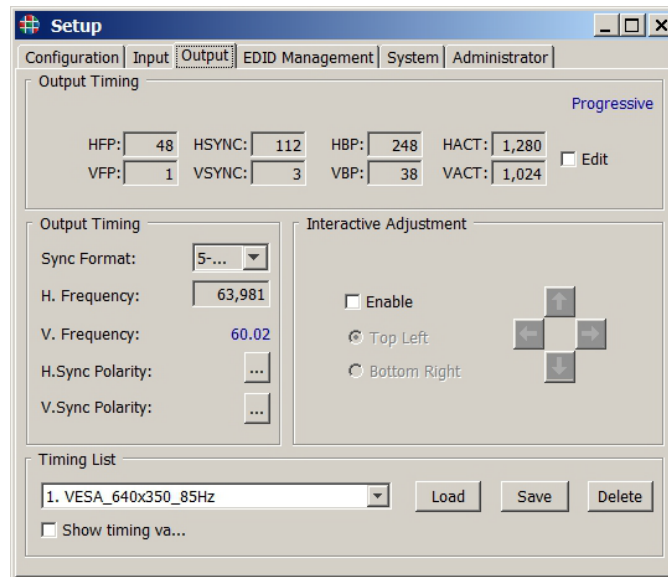

Figure 4-4 Setup Output Timing
2. Click on the **Output Timing** tab (Figure 4-4).